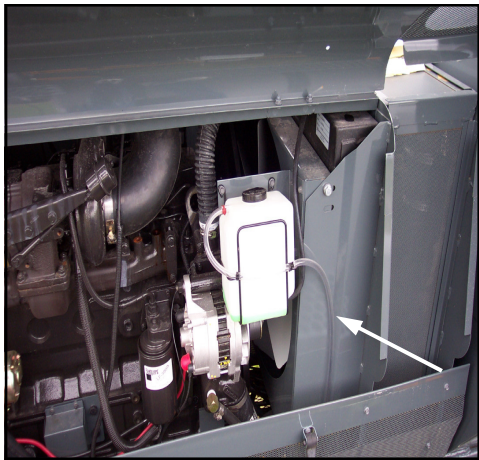

FIG 59-1
**COOLANT RESERVOIR** - The coolant reservoir is located under the right-hand hood behind the radiator (fig. 59-1). Check its level everyday while the engine is cold. Maintain the coolant reservoir level within the normal cold range marks.